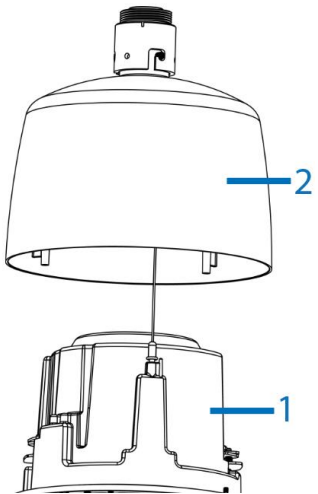

Figure 9
7. Place the camera housing (1) (Figure 9) up into the pendant mount (2) (Figure 9) and pull the power cables through the hole in the camera housing.